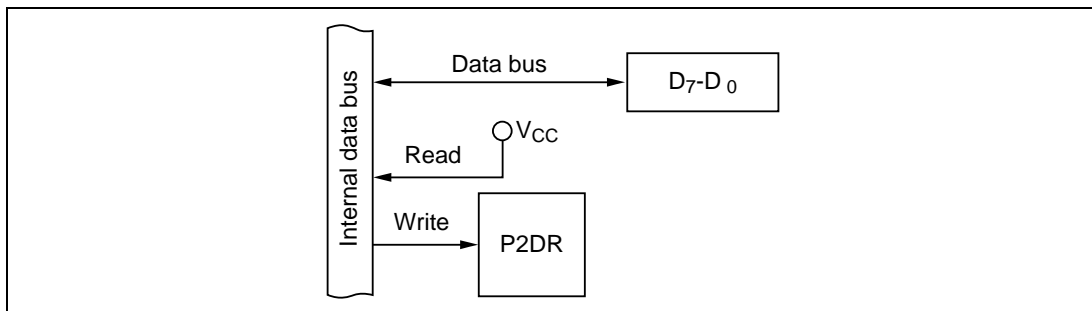

Figure 10-12 Data Bus: D₇ to D₀ (Modes 1, 3, 4, 5, and 6)
(1) Data Bus (Modes 1, 3, 4, 5, and 6): Figure 10-12 shows a block diagram illustrating the data-bus function. Table 10-7 indicates register read/write data. When port 2 operates as a data bus, the values in the port 2 data register (P2DR) have no effect on the bus lines. When read, P2DR returns all 1s.